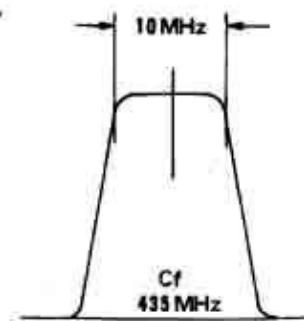

Figure 1
- Preset TC1001 for minimum capacitance, and adjust CV1001 and CV1002 to obtain the waveform of Figure 1 at maximum amplitude. TC1001 is readjusted in the next procedure.